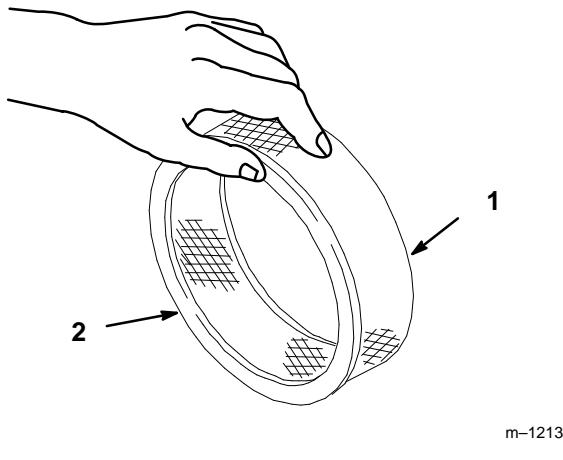

Figure 19
- Lightly tap the element on a flat surface to remove dust and dirt (Fig. 19).